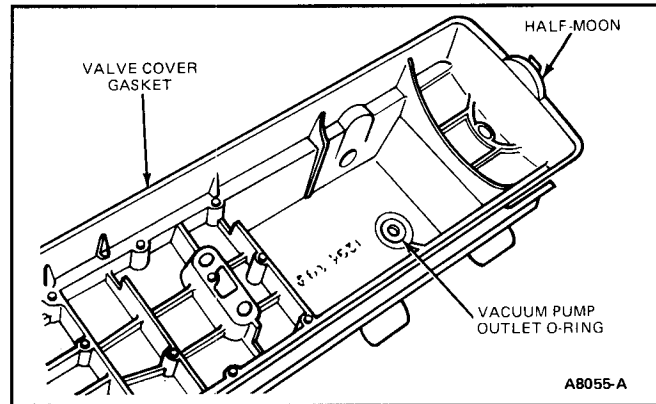

FIG. 13 Valve Cover Gasket and Vacuum Pump O-Ring
- Inspect cover gasket and vacuum pump outlet O-ring (Fig. 13). Replace, if necessary.
CAUTION: Be sure half-moon on gasket is fully seated in cylinder head (Fig. 13).
- Install turbo crossover pipe (Fig. 13).
- Inspect vacuum pump outlet port O-ring in valve cover (Fig. 13). Replace, if necessary.